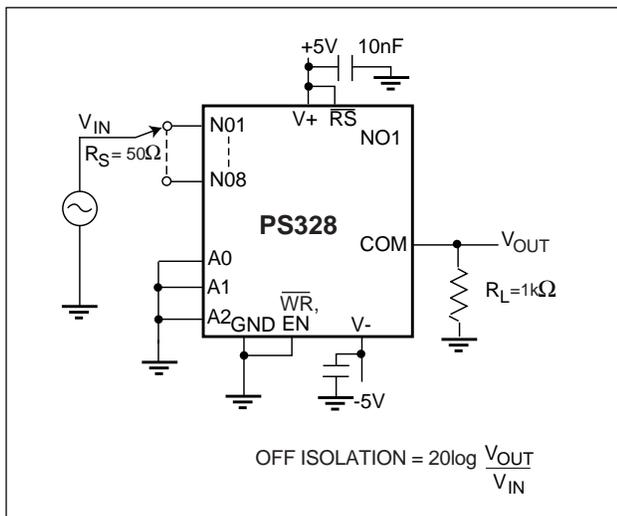

Figure 7. Off Isolation
- Off Isolation = $20 \log_{10} V_{COM} / V_{NO}$. See figure 7.